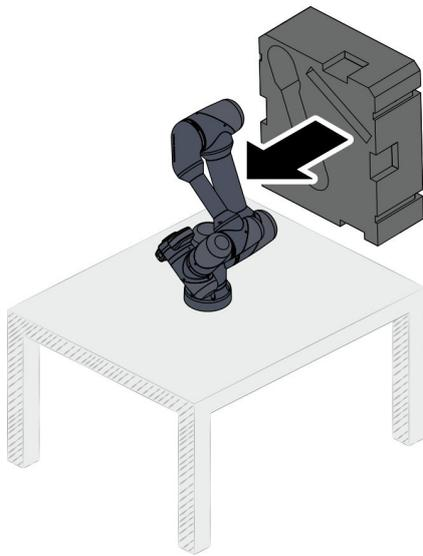

Fig. 95 Inserting packaging part 3
05. Place packaging part 3 on the robot Fig. 95 and stow the rolled-up robot cable in the recess in the foam packaging. Ensure that the robot cable is not kinked.